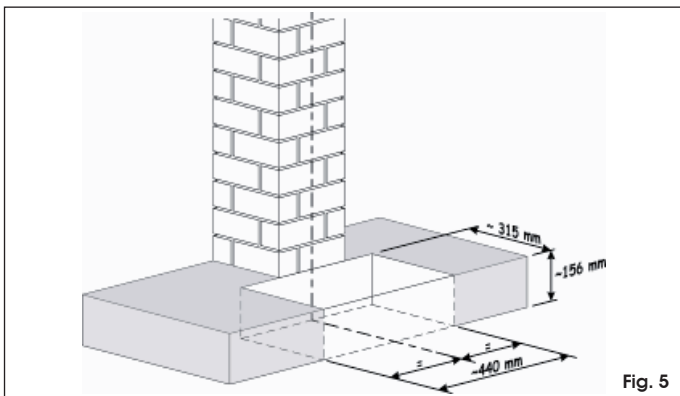

Fig. 5
1. Dig out a hole for the foundation box as shown in Fig. 5.